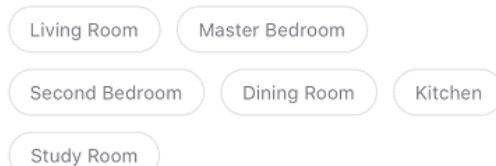

Fig.3
6. You can set the name for your device by pressing the pencil logo besides, and select the location of your device. Then press “Done” at the top right corner. (Fig.3)